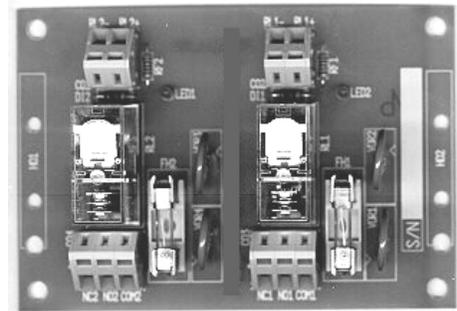

Fig. 31 Relay Extension Print
- ☞ Model 15 can also be equipped with 2 extension relays on an extension PCB. This option is needed when you need more than the 3 extension relays on board. This PCB has two 16A relays for driving high current outputs (see Fig. 31).